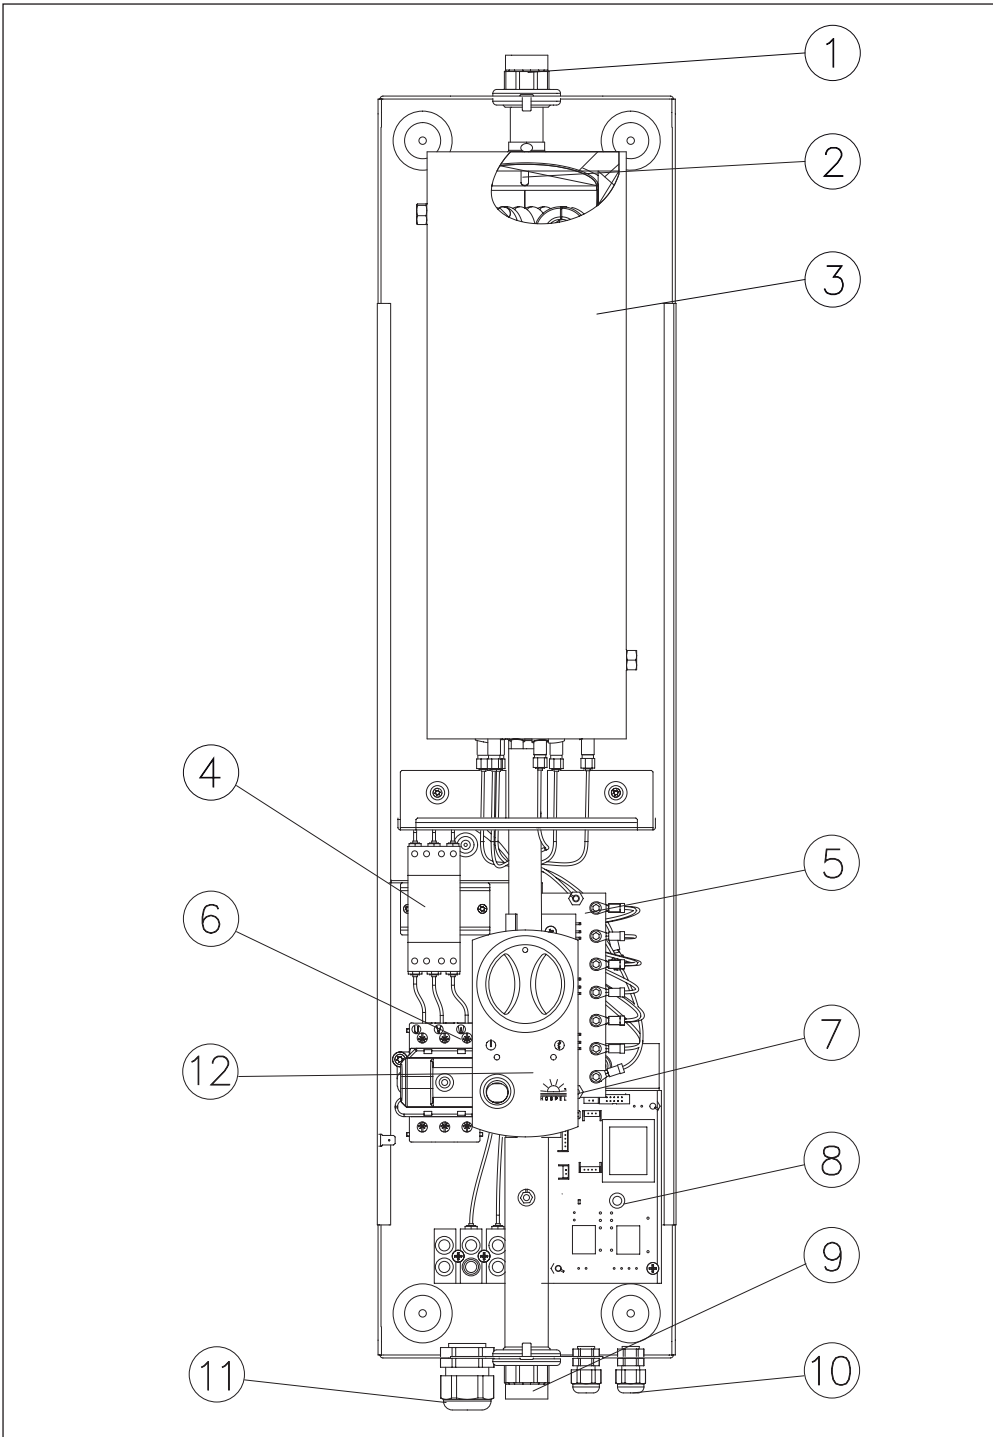

Figure 1
1. Hang the boiler in a vertical position on the fixing points and screws provided, with the flow and return connections as identified in Figure 1 maintaining the clearances as identified in the Location section of this manual (page 3)